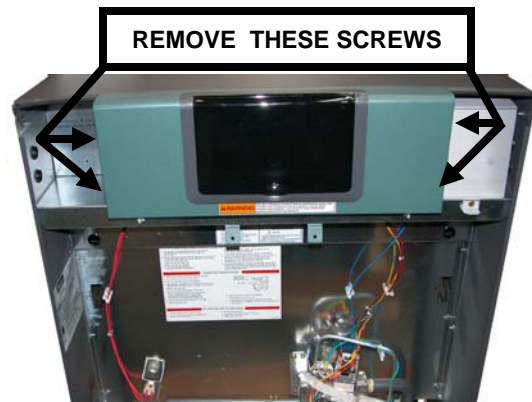
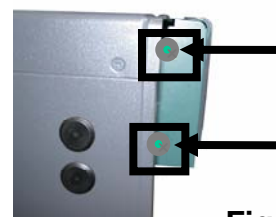

Fig. 5
Fig. 6
4. Remove the four screws on the side of the control panel. See **Fig. 5** and **Fig. 6**.